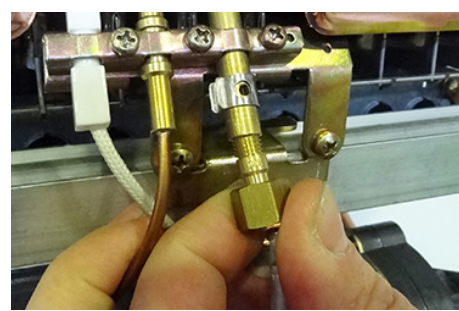

Fig. 10
- Insert the seal contained in the transformation kit (Fig. 10)